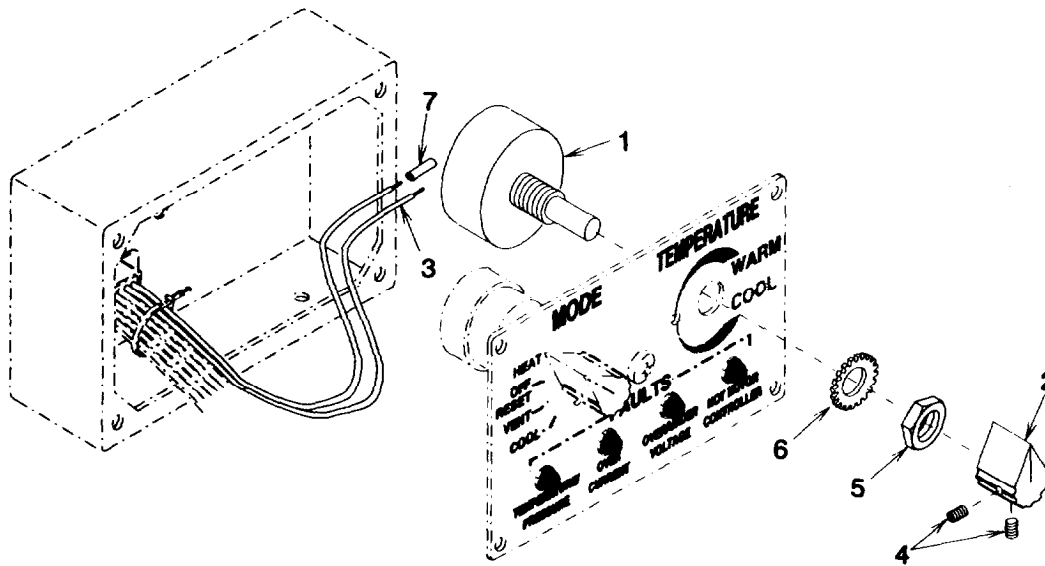

Figure 3-31. Potentiometer (TEMPERATURE Control) (R1)
- (1) Using multimeter set to measure resistance, check resistance between potentiometer (1) Figure 3-31 terminals 2 and 3.
- (1) Install potentiometer (1), lock washer (6), and nut (5).
- (2) Rotate potentiometer (1) shaft to midway position and install knob (2) pointing midscale between WARM and COOL. Tighten two setscrews (4).
- (3) Connect wire leads (3) to potentiometer (1) using tags and control panel wiring diagram Figure 3-5. Use new sleeving insulation (7) Figure 3-31 as necessary. See paragraph 3-19 for soldering procedures. Remove tags.